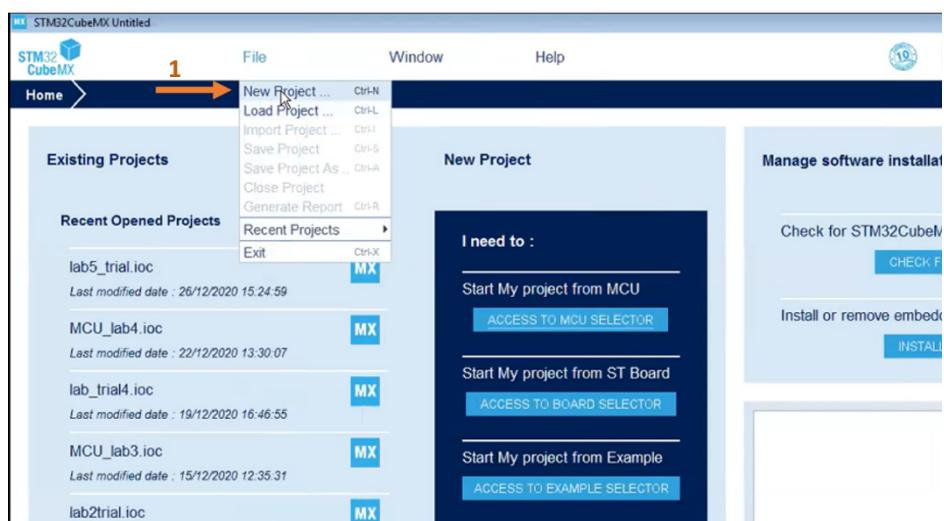
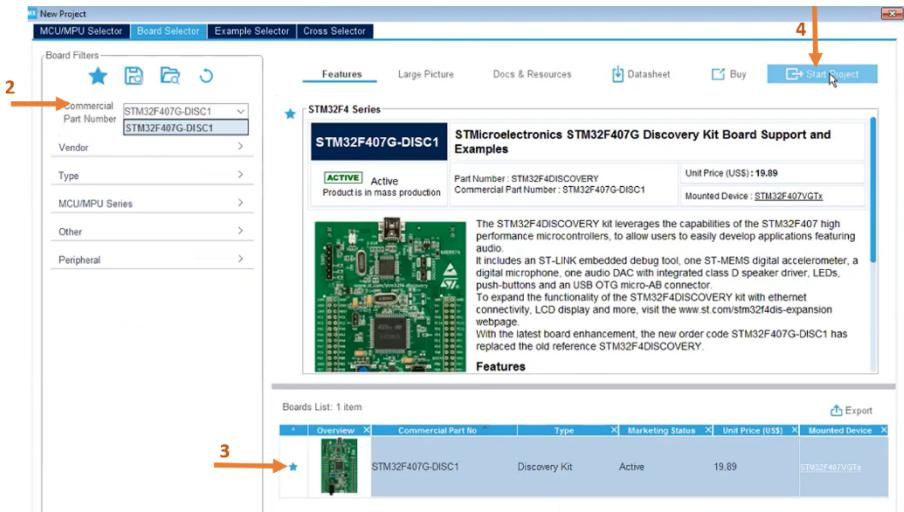
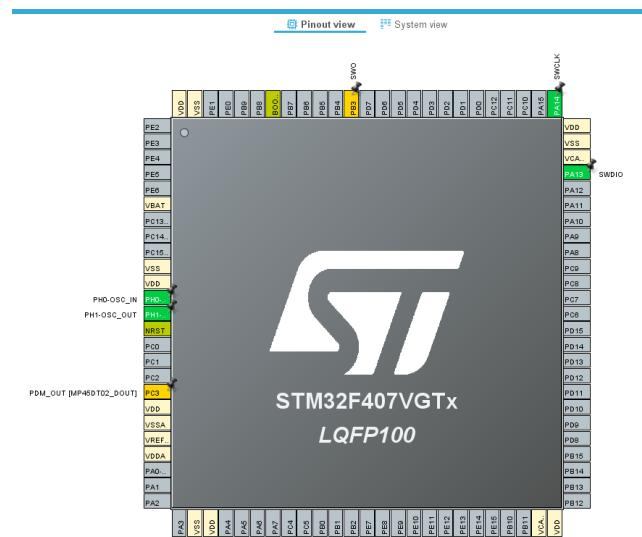

Figure 1
Figure 2
Figure 3
1. Create a new project in CubeMX (Figure 1). Select STMF407VGTx, then STMF407G-DISC1 and finally Start Project (Figure 2). First adjust the Pinout&Configuration settings. Close the unnecessary pins (Figure 3).